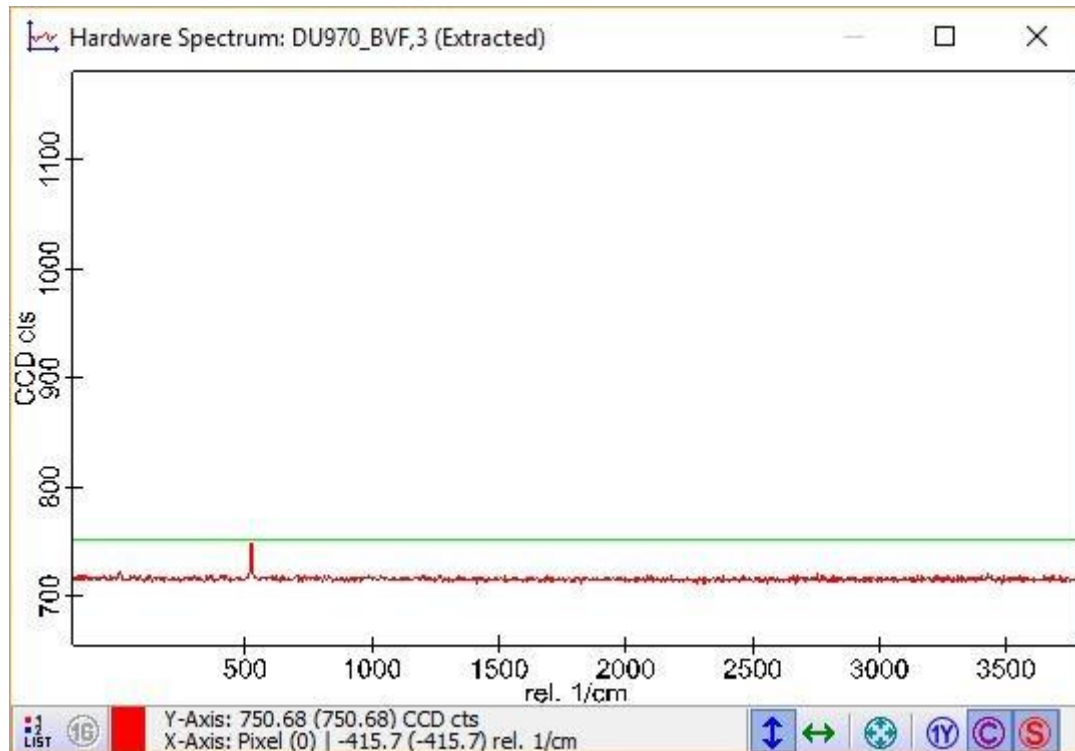

Figure 1: Low intensity silicon spectrum
5. If a spectrum comparable to the one in Figure 1 is visible maximize its intensity by optimizing the focus with the z-stage, piezo stage or manual focus drive (depending on system). (Go carefully in one direction using single steps and check the intensity. Keep the direction if it increases or change the direction if it decreases. Stop at the maximum.)